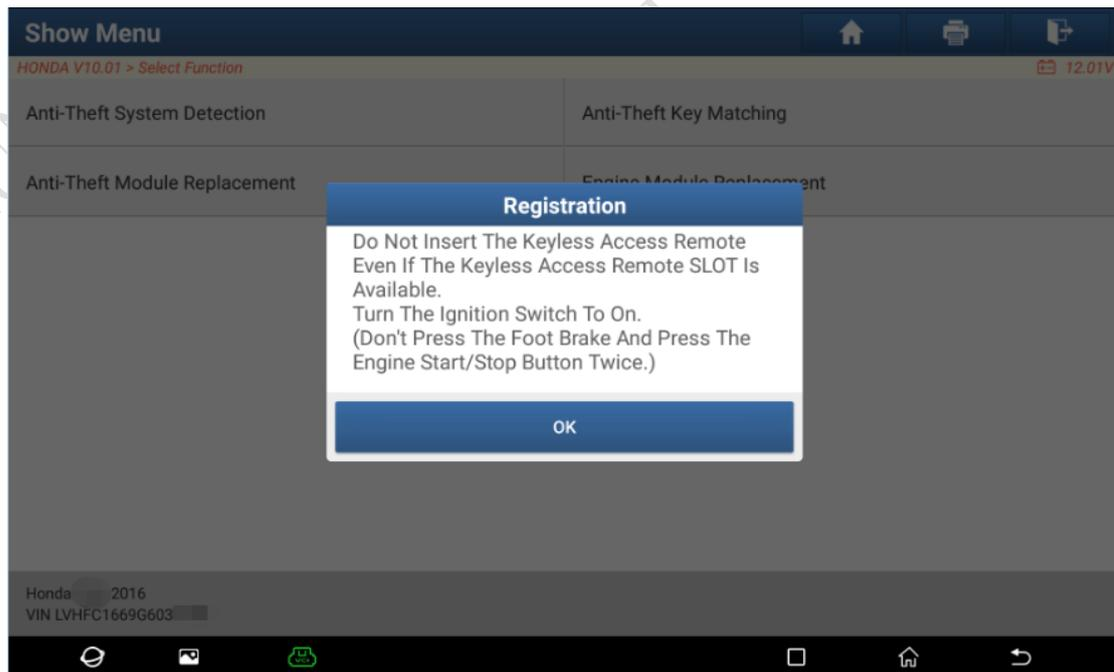

Figure 10
10. Turn the ignition switch to ON, as shown in Figure 10.